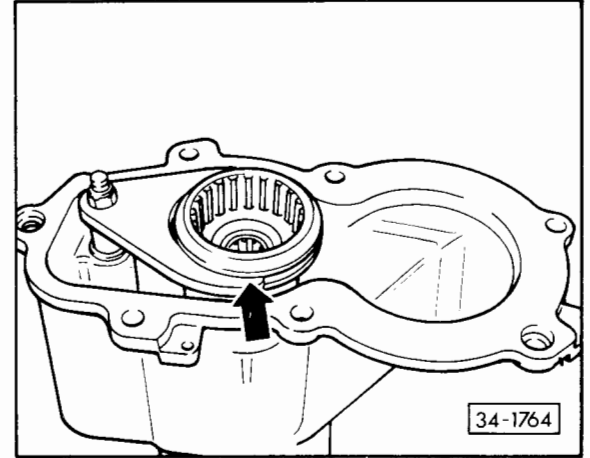

Fig. 7 Installation position of shift sleeve
- 21 Shift sleeve (2)
- Installation position – Fig. 7
- 22 Spring pin (2)
- (1) Only on permanent 4WD
- (2) Only on selectable 4WD